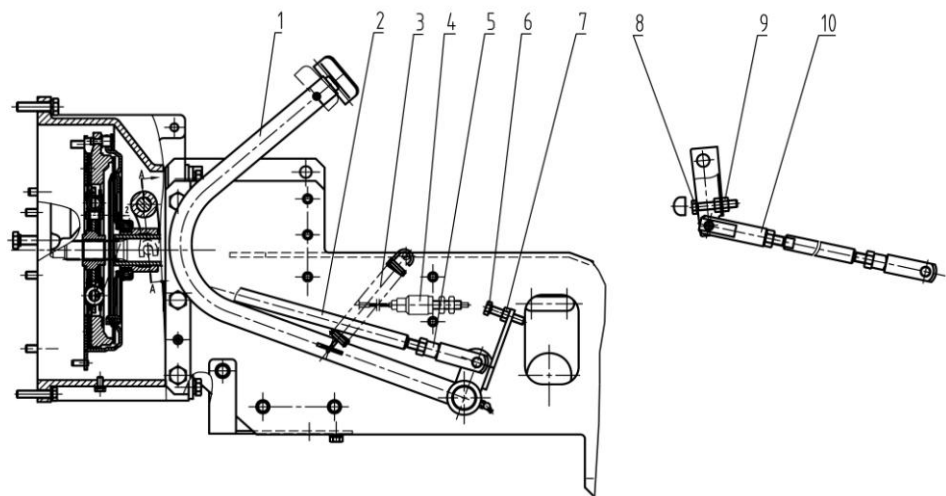

Figure 6-1 Single-stage clutch
Loosen the nut and rotate the adjusting rod (2). When the distance between the front end of the release bearing and the release pawl is about 2-3mm, tighten the nut (see Figure 6-1).
Rotate the adjusting rod (2), the adjusting fork (5) and the adjusting fork (10). Adjust the front stop screw (8) and the rear stop screw (6), and then depress the clutch pedal (1). Tighten the nut (9) and the nut (7) when the clutch can be completely separated. When the adjusting rod (2) needs to be readjusted after the tractor has been used for a period of time (see Figure 6-1).
between the clutch control board and the start switch contact by 2~3mm after the clutch pedal is depressed and then tighten the nut (7) (See Figure 6-1).